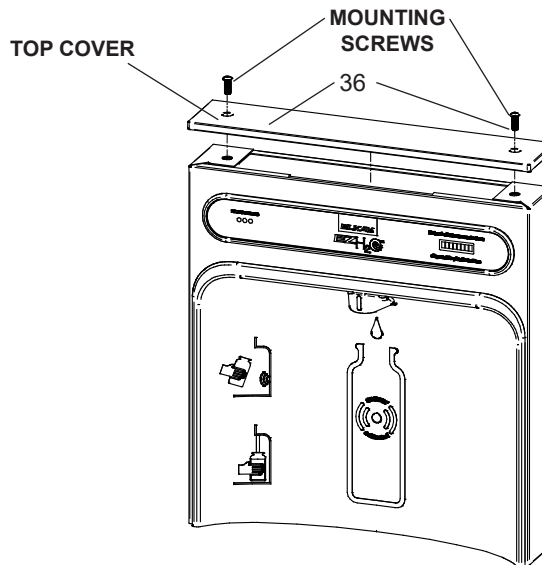

Fig 9
- 1) **Remove two (2) mounting screws** with 5/32" Allen wrench holding top cover to Bottle Filler (See Fig. 9). Remove top cover. Note do not discard mounting screws, they will be needed to reinstall top cover.
- 9) **Once Bottle Filler is installed on wall plate tabs,** water line and power cord are installed properly, push top of Bottle Filler toward wall and line up top cover two (2) holes.
- 10) **Reinstall Top Cover on Bottle Filler** (See Fig. 9) with two mounting screws from step 1 above. Caution, do not over tighten screws.